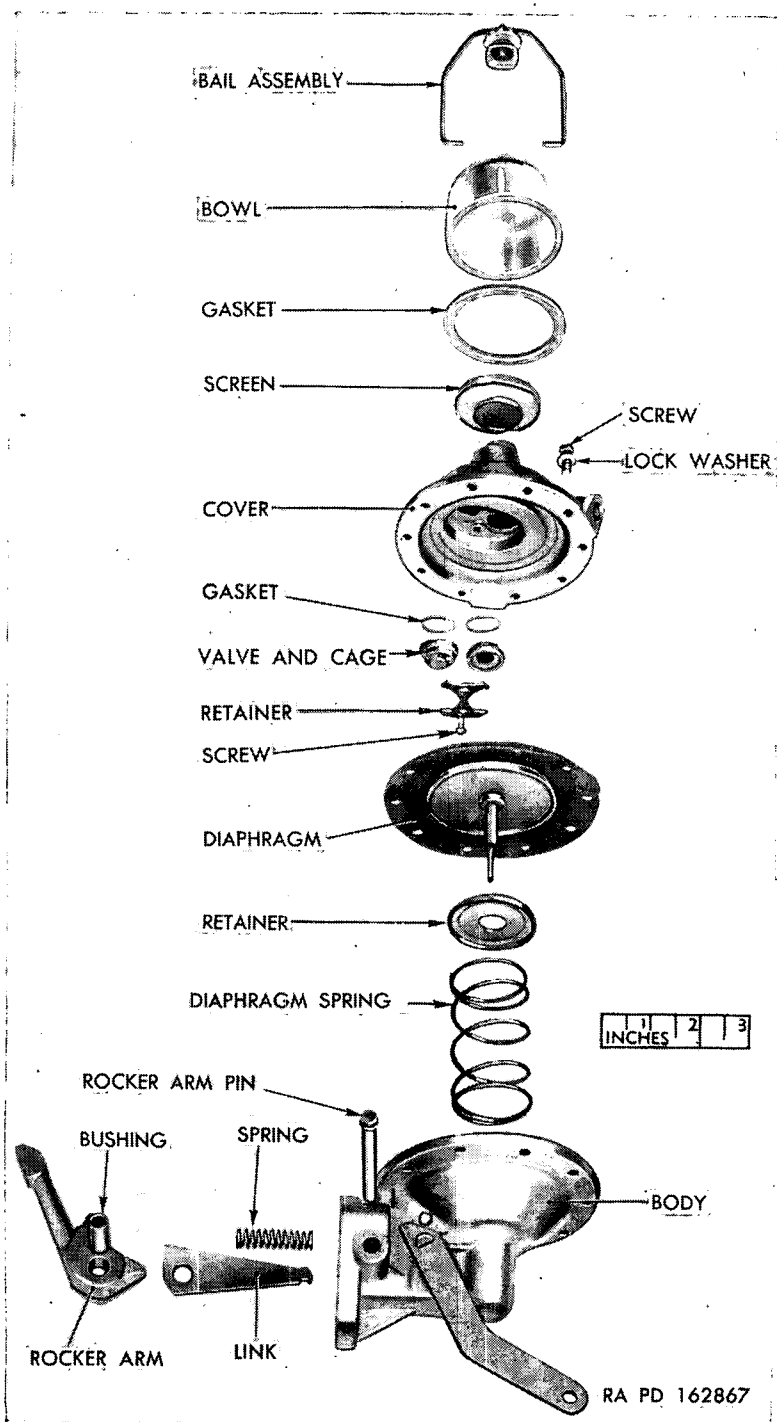

Figure 41. Fuel pump—disassembled (typical series AU construction).
(fig. 41)
*a. Assemble Body (fig. 41).*
- (1) Place fuel section gasket and seal in recess of body with dished portion of seal down. Press down firmly with flat end of  $\frac{7}{8}$ -inch diameter round bar. Retain by staking die cast lip in four places.
- (2) Make an assembly of rocker arm and link with bushing. Place assembly of rocker arm and link in body with link hook down. Aline rocker arm pin and bushing with hole in body, and drive in the rocker arm pin. Place washer on small end of rocker arm pin and spread end of pin.
- (3) Soak diaphragm in clean kerosene. Fuel oil may be used; but do not use shellac or sealing compound. Place diaphragm spring over pull rod well; then place the spring retainer on spring. Slide the pull rod of the diaphragm assembly through retainer and spring. Hold pump body upside down and press diaphragm against spring. At the same time, tilt the diaphragm so the pull rod angles away from link hook. Bring diaphragm back to level and link should engage pull rod.